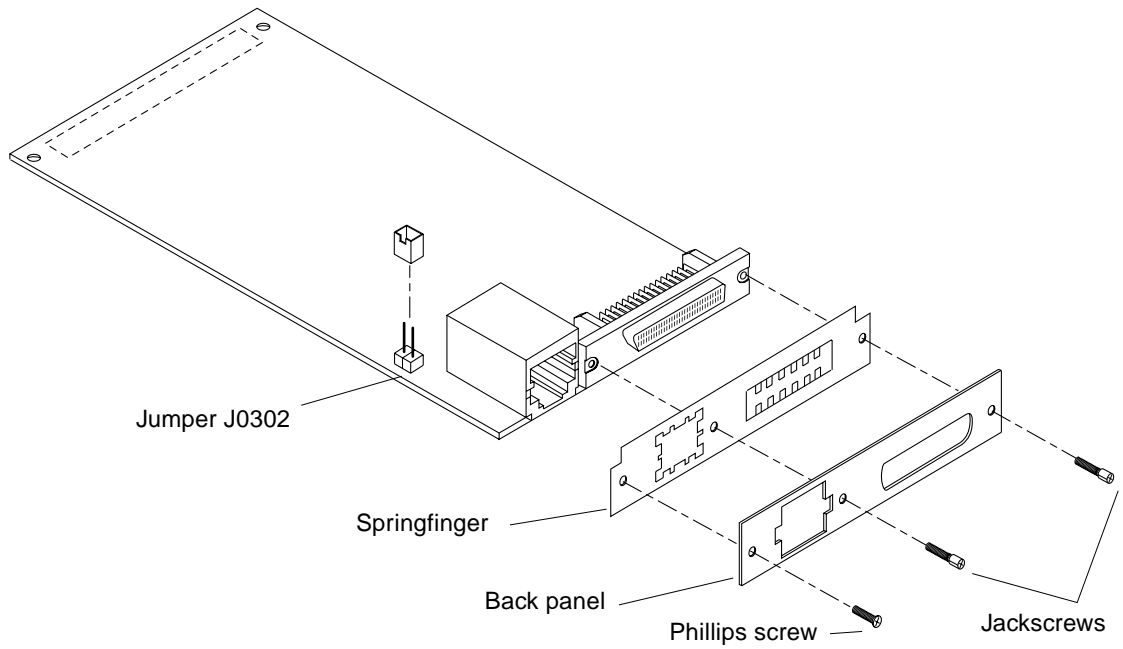
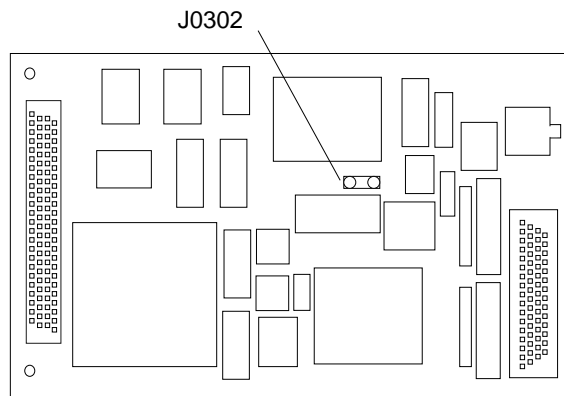

FIGURE 4-18 DSBE/S SBus Card
FIGURE 4-19 FSBE/S SBus Card
2. **For DSBE/S and FSBE/S cards: remove the two outer retaining screws (FIGURE 4-18), but do NOT remove the middle screw or the springfinger.**
3. **For DSBE/S and FSBE/S cards, configure jumper J0302 for Link Integrity Test functionality. See FIGURE 4-18 (DSBE/S) or FIGURE 4-19 (FSBE/S).**